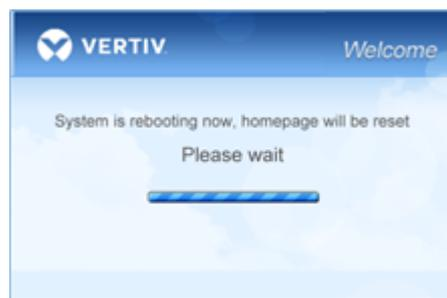

Figure 6-55 Reboot page
- 9) Type the login password of current user, and click **OK**. The reboot page pops up, as shown in Figure 6-55;